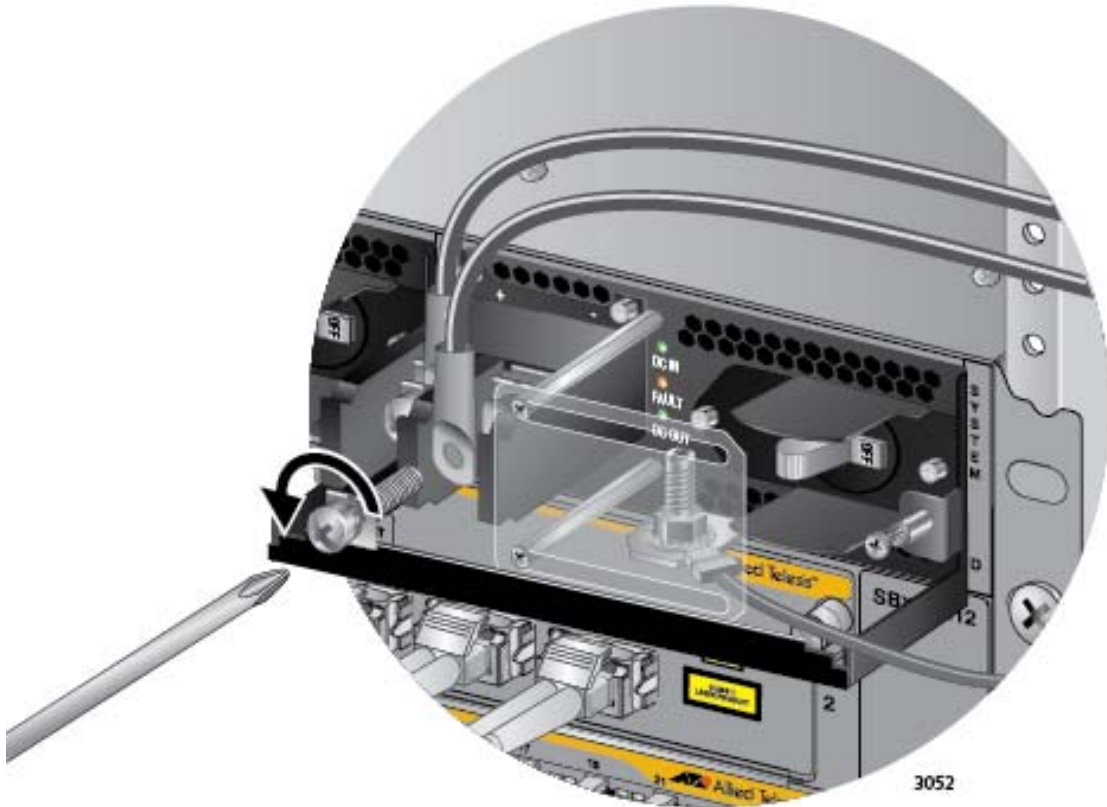

Figure 152. Removing the Negative Lead Wire
5. Use a #3 screwdriver to remove the negative (-) lead wire from the terminal block. The negative lead wire is on the right. Refer to Figure 152 on page 240.